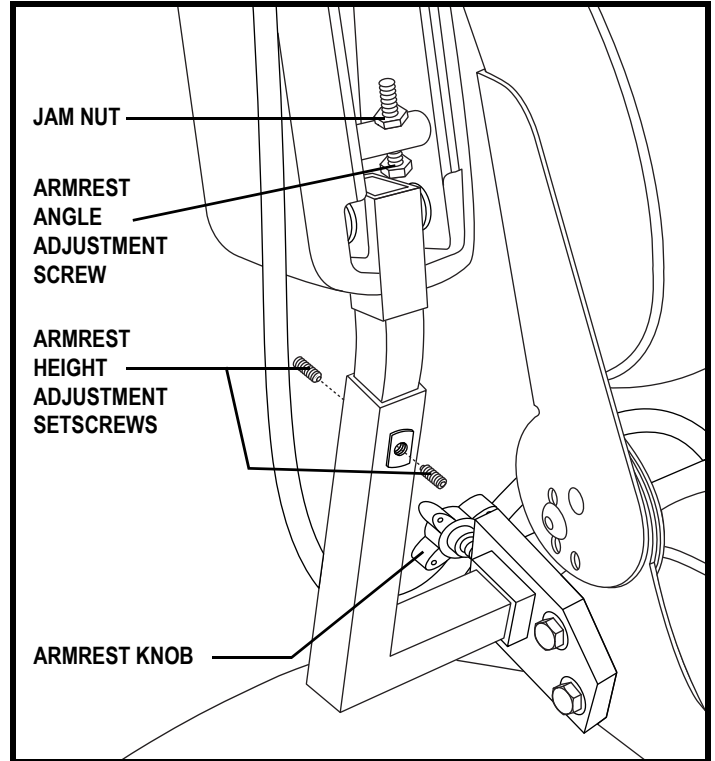

Figure 10. Armrest Adjustment
1. Locate the armrest width adjustment knob or screw on each side of the armrest receiver bracket. **See figure 10 or 11.**
1. Loosen the setscrew on the armrest. **See figure 10 or 11.**